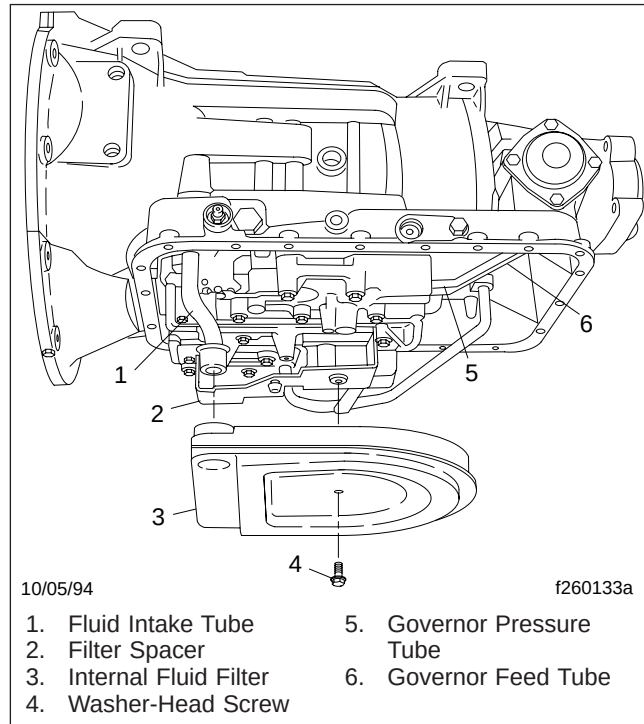

Fig. 5, Allison AT Series Transmission Filter
6. Remove the washer-head screw that attaches the internal fluid filter to the filter spacer, then remove the filter and discard it. See Fig. 5. Remove the fluid intake tube, and then remove the seal ring from the intake tube, and discard the seal ring.